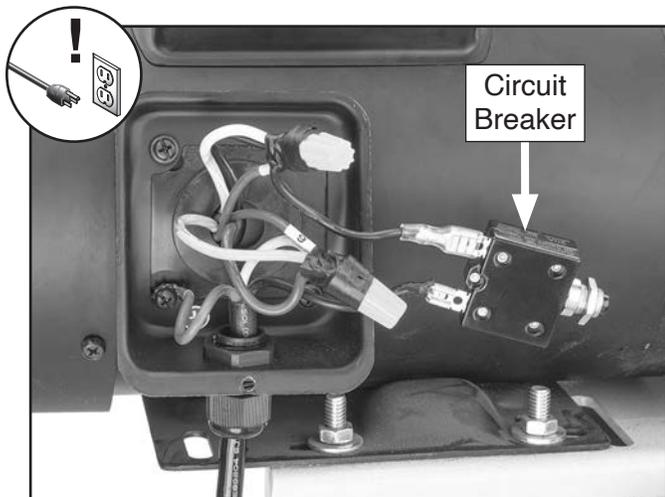

Figure 56. Location of circuit breaker.
3. Open motor junction box, then replace pre-installed 20A circuit breaker (see **Figure 56**) with 10A circuit breaker.